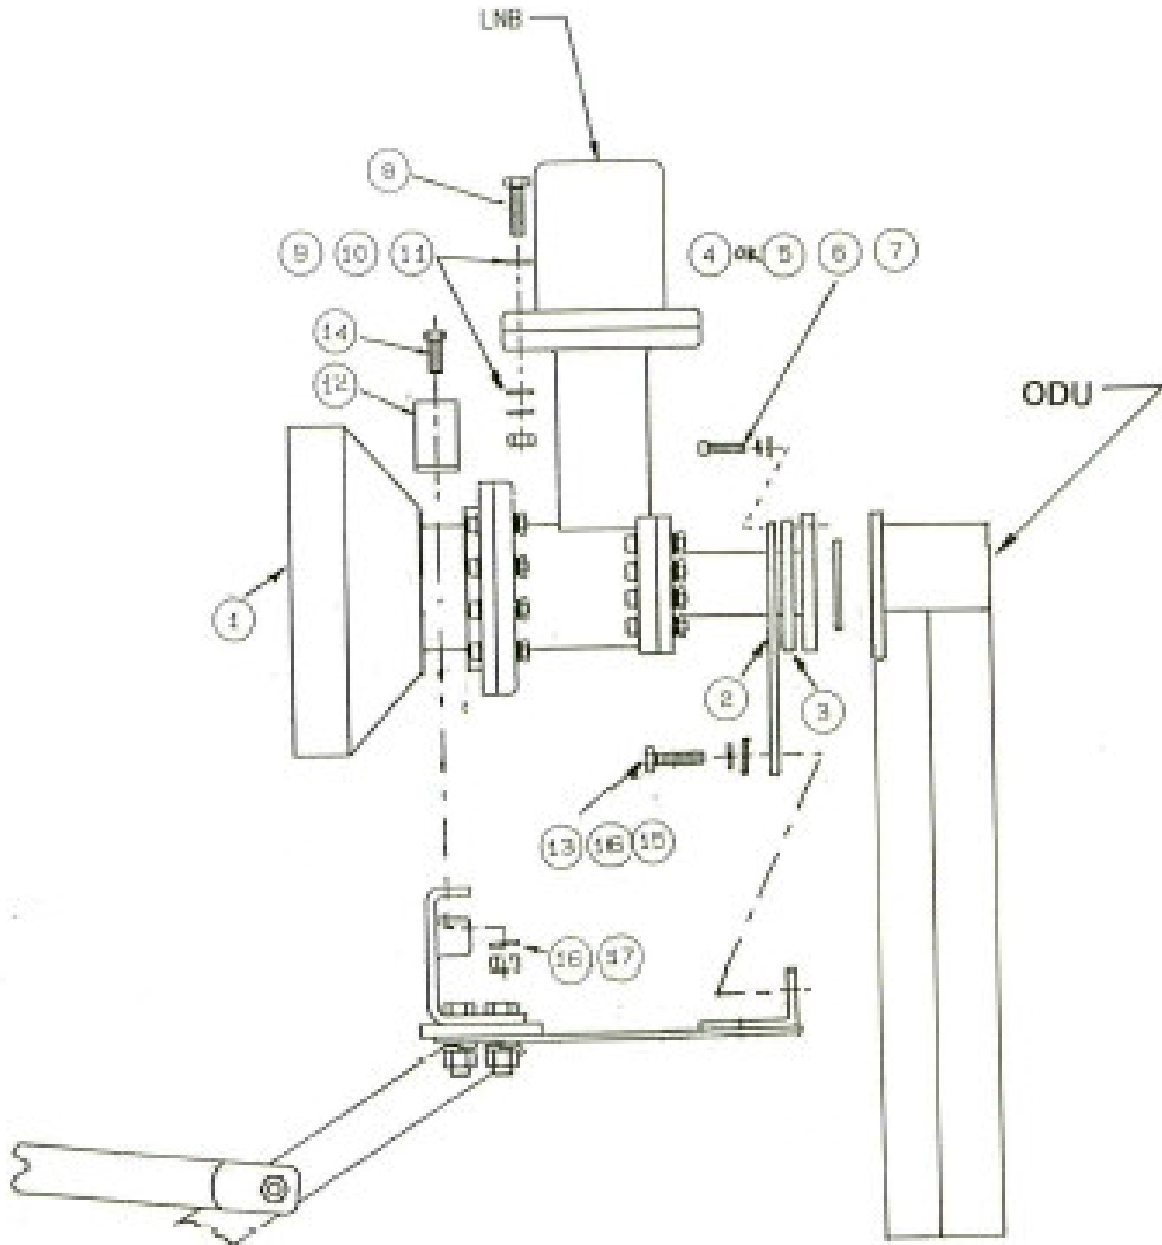

FIGURE 4
- STEP 1:** Assemble the ODU to the Tx port of the feed assembly (item #1) with the disc and spacer, as shown in figure 4. Place the gasket (supplied with ODU between the feed and ODU flanges. Use the 2 short #10 screws (item #4) in the top 2 holes, and the 6 long #10 screws (item #5) through the disc and spacer. Use lockwashers and flatwashers (item #6,7) as shown. Tighten securely.